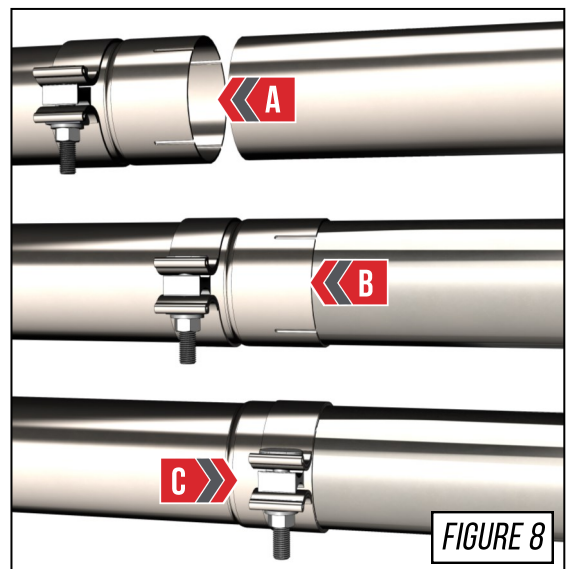

FIGURE 8
**Arrow A** in **Figure 8** shows the expanded pipe and the preinstalled Accu-Seal clamp being brought up to the corresponding pipe.
**Arrow B** in **Figure 8** shows the overlapping pipe installed correctly over the corresponding pipe.
**Arrow C** in **Figure 8** shows the Accu-Seal clamp being brought to the edge of the expanded pipe.